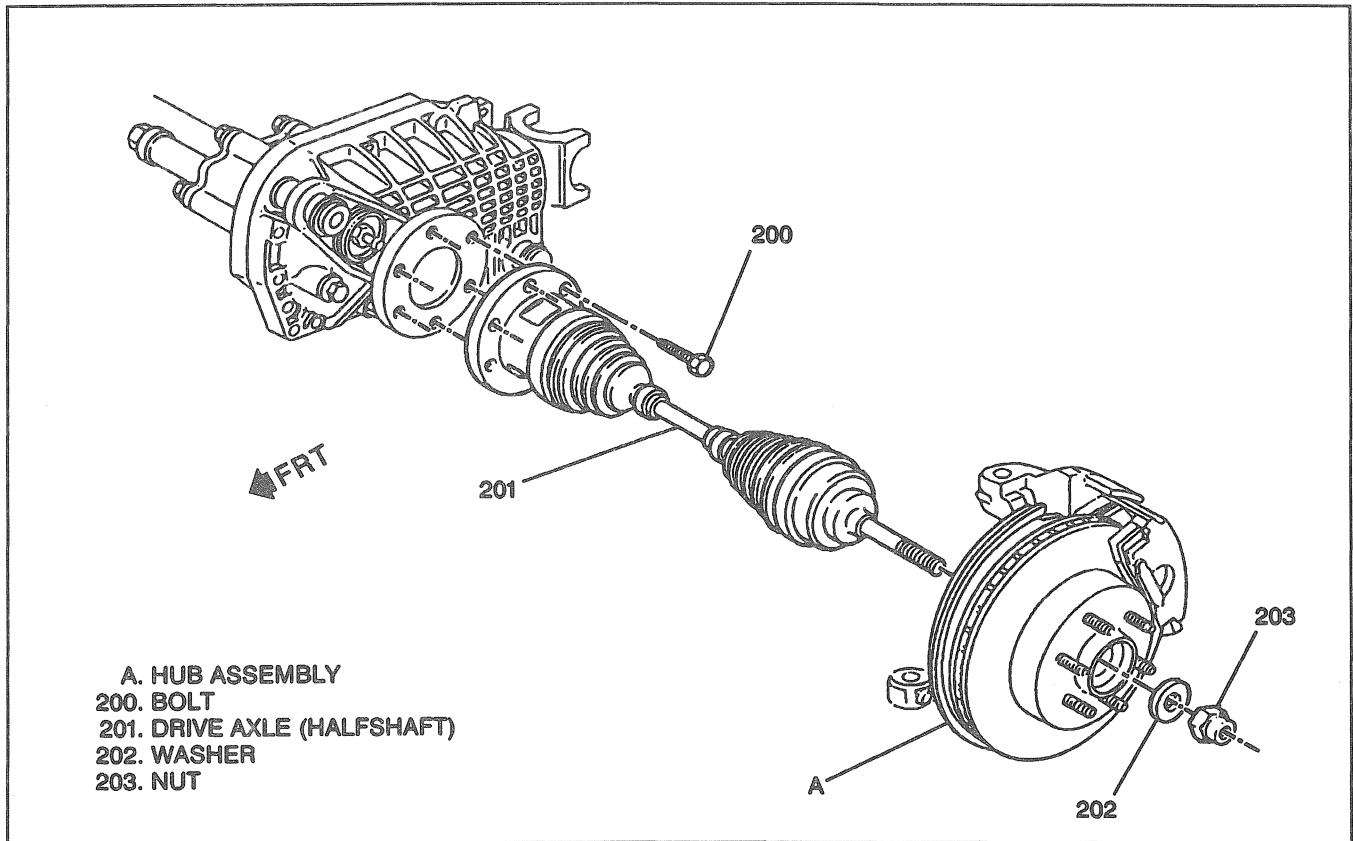

Figure 5—Drive Axle (Halfshaft)
Remove or Disconnect (Figures 5 through 12)
2. Drive axle (halfshaft) hub nut (203) and washer (202) (Figure 5).
- Loosen, but do not remove the 6 bolts (200) securing inboard C/V joint drive flange to the output shaft companion flange (Figure 5).
- 14. Six bolts (200) from inboard joint flange (Figure 5).
Install or Connect (Figures 5 through 12)